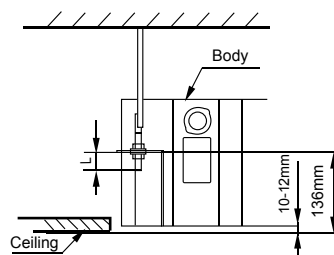

Fig.5-6
- Adjust the position to ensure the gaps between the body and the four sides of ceiling are even. The body's lower part should sink into the ceiling for 10~12 mm (Refer to Fig. 5-6).
- In general, L is half of the screw length of the installation hook. (Refer to Fig. 5-6)